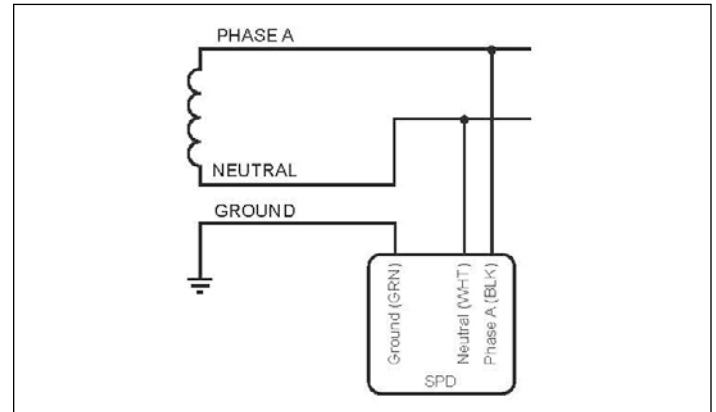
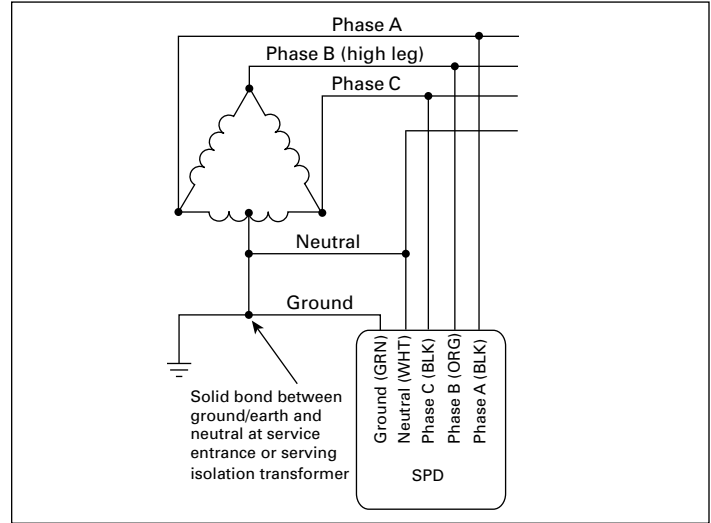

Figure 6. Single-phase (1P101, 1P201)
Figure 10. Three-phase delta (high leg) (3D101)
3. See **Figure 6** through **Figure 10**. Locate the wiring diagram of the electrical system to which the SPD is being connected. Perform the procedure associated with that wiring diagram to connect the SPD.